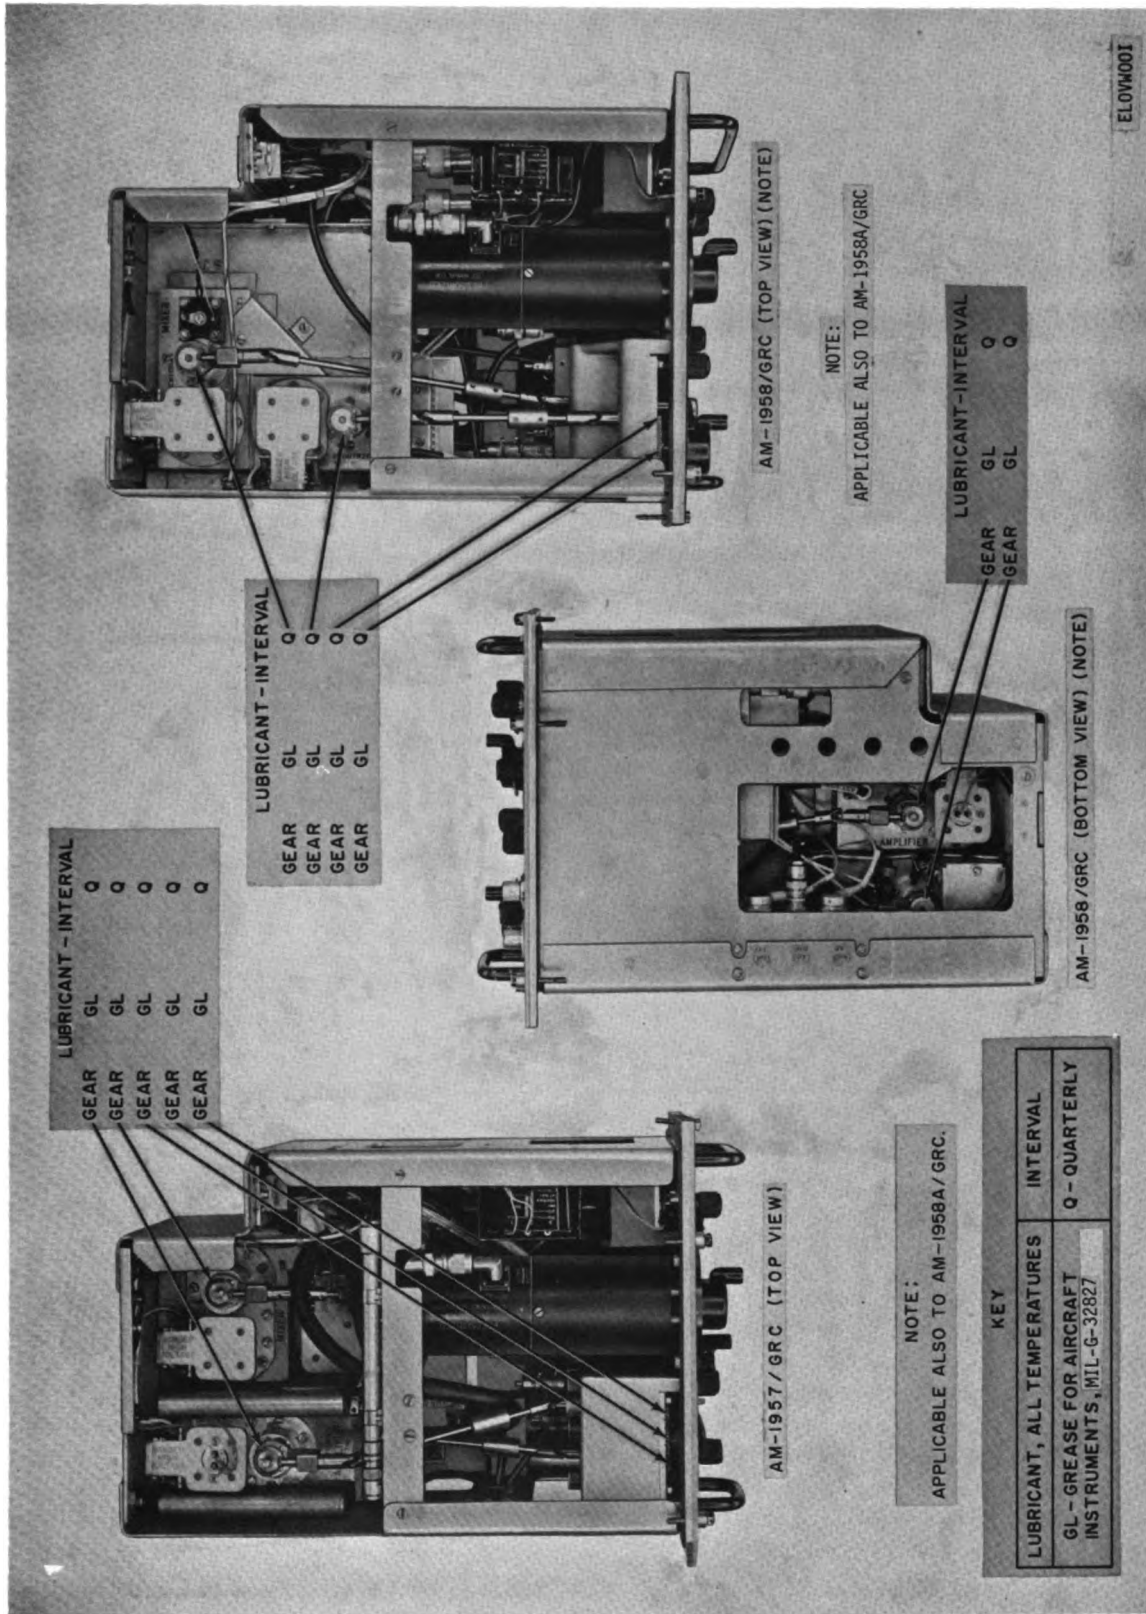

Figure 5-1. Amplifier-Oscillators AM-1957/GRC and AM-1958(G)/GRC, lubrication points.
| 4 | <p>LUBRICATION: Perform a complete lubrication of the equipment.</p> | <p>Mechanisms do not show signs of overlubrication or underlubrication.</p> | <p>Para 5-7 and figs. 5.1, 5-2, and 5-3.</p> |
a. Amplifier-Oscillators AM-1957/GRC and AM-1958()/GRC.* Loosen the front panel mounting screws on the AM-1957/GRC or the AM-1958(*)/GRC and remove it from the T-893(P)/GRC. Locate all the points to be lubricated (fig. 5-1) and clean them with a brush dipped in cleaning compound. Use a clean brush to apply a light film of grease (GL) to the points indicated. Replace the components and tighten the mounting screws.